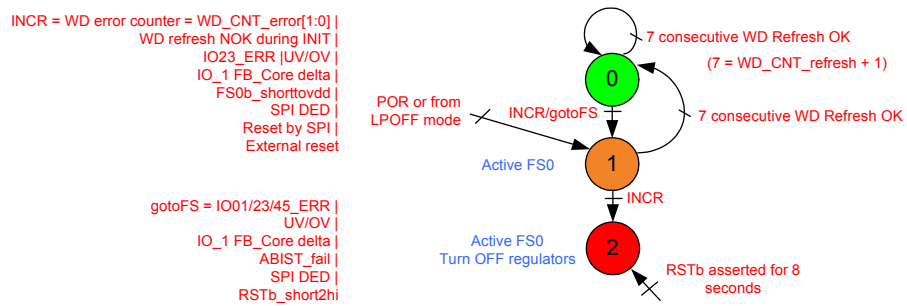

Figure 20. RSTB error counter(RSTb\_err\_FS = 1)
- RSTB\_err\_FS = 1 / Intermediate = 1; Final = 2 (Figure 20). When reset error counter reaches 2, the device goes into deep reset and fails.